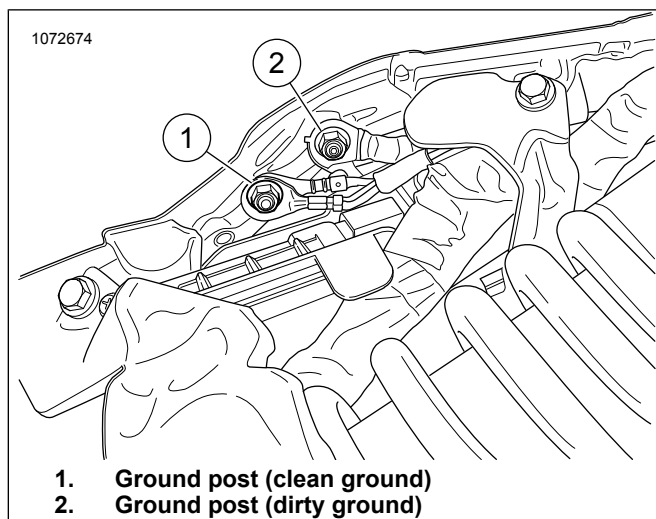

Figure 23. Frame Ground
See Figure 23. Route and connect ATM ground wire to rear **clean** ground post (1). Tighten to: